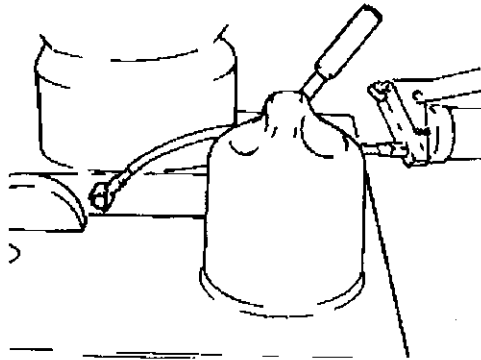
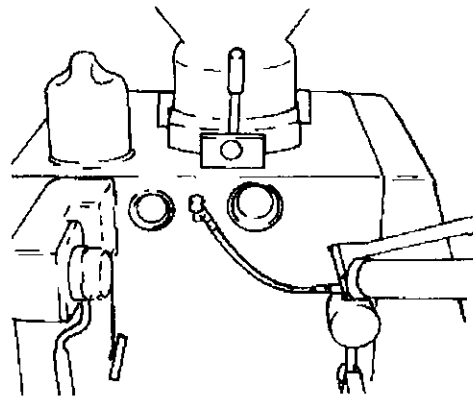

Fig. 5-9
Fig. 5-10
- Grease or oil all the removed, cleaned and dried components apart from the vacuum system parts with bacon rind or lard, or a corrosion-inhibiting oil or grease which is approved for use in the foodstuffs industry. The seals in the feed unit drive (Fig. 5-9) and the feed element (Fig. 5-10) must be lubricated once a week with grease which is approved for contact with foodstuffs.